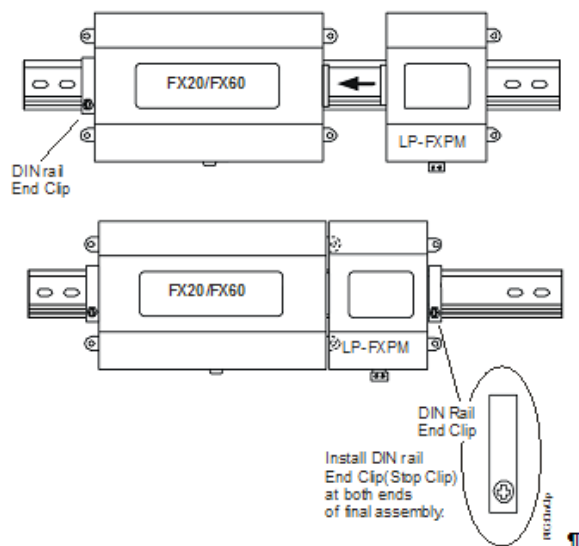

Figure 4: Using End Clips to Secure Modules
6. Repeat these instructions for all accessories, until all are mounted on the DIN rail and firmly connected to each other. For an example, see Figure 4.
To keep the final assembly together, secure at both ends with DIN rail end-clips. This also prevents the assembly from sliding on the DIN rail. See Figure 4.